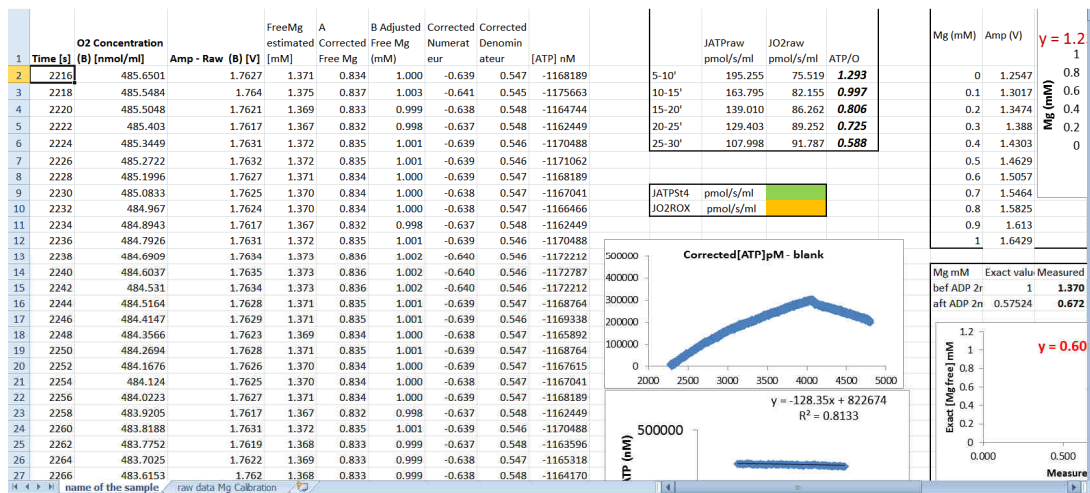

Figure 7.
- Copy the three columns from the .csv file and paste them into columns A, B and C of the Excel template file (Figure 7).